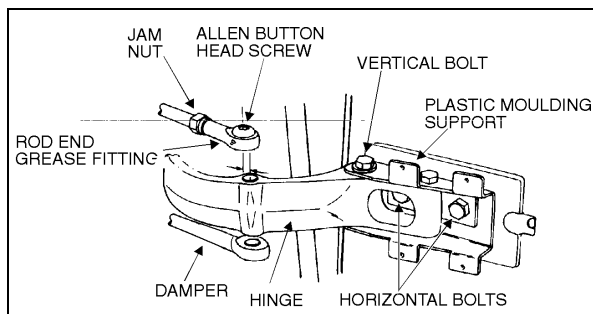

FIGURE 15: UPPER DOOR HINGE
- Remove the Allen button head screw and the washer retaining the rod end with bearing to the upper hinge. See figure 15.
3. Remove the Allen button head screw and the washer retaining the rod end with bearing to upper hinge. See figure 15.